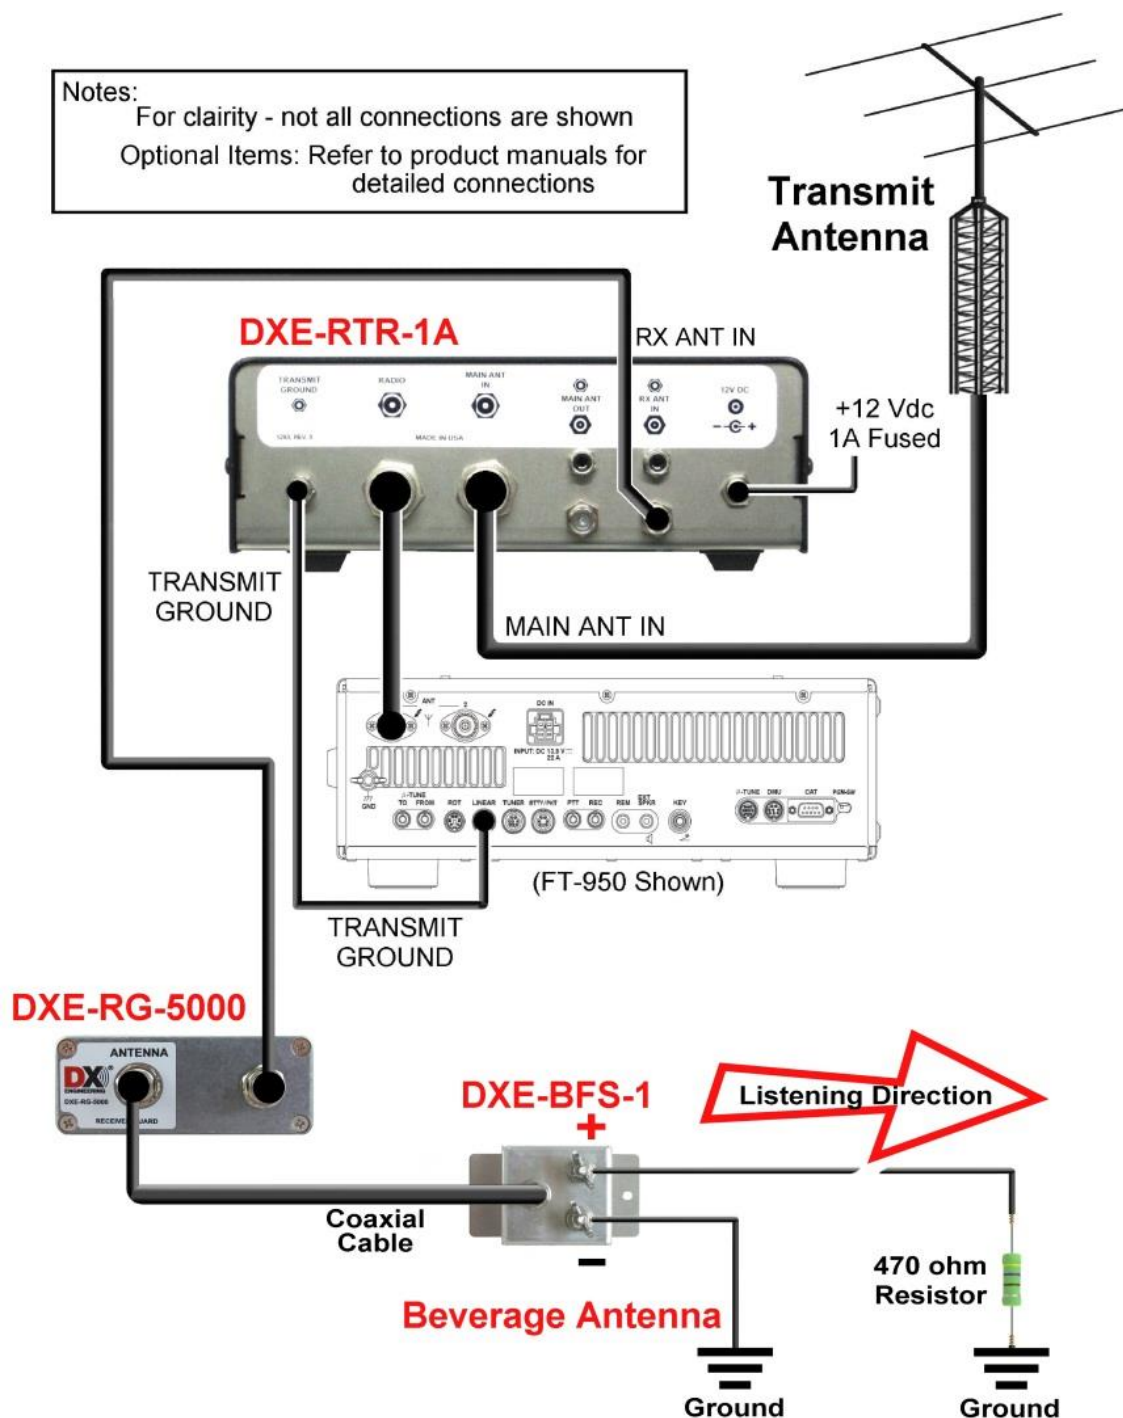

**Figure 5 - Typical Beverage Receive Installation with optional Preamplifier, Lightning Protection and Receive Feedline Current Choke**
**Figure 5** expands the options shown in **Figure 5** by including the optional **DXE-RFCC-1** Receive Feedline Current Choke installed. Consult your transceiver manual regarding the use of RX OUT and RX IN connections.